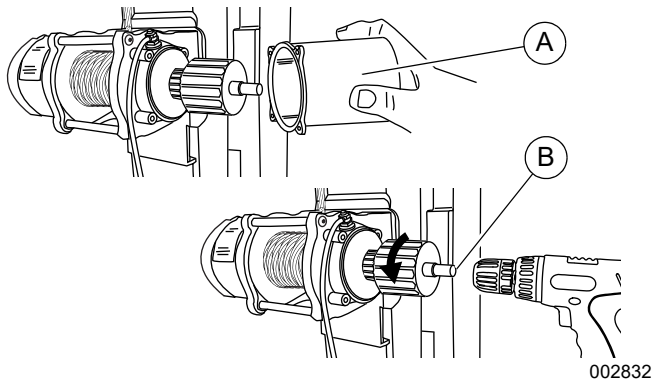

Figure 3-16. Manually Lowering the Mast
1. See Figure 3-16. Remove the motor cover (A).